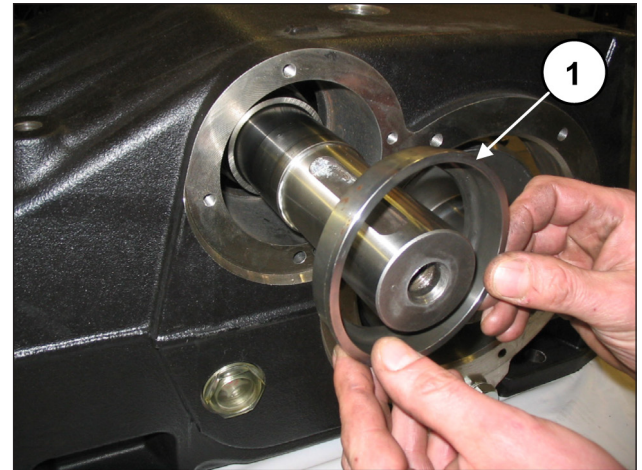
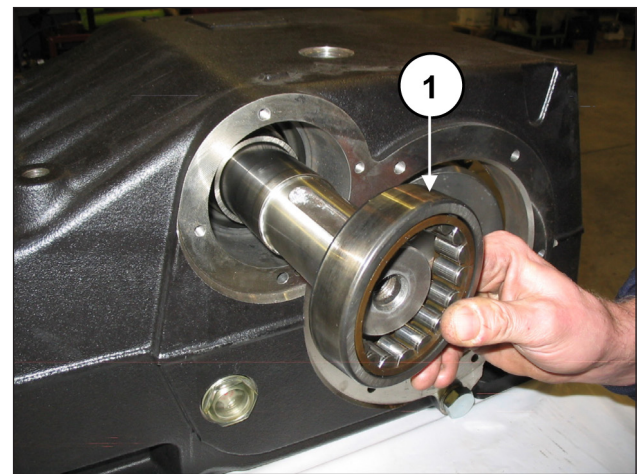

Fig. 58
Fig. 59
From the side of the casing where the PTO shaft was inserted, proceed to insert the bearing lubrication bush (pos. ①, Fig. 58) and an external bearing ring (pos. ①, Fig. 59) using a buffer and an extractor hammer.